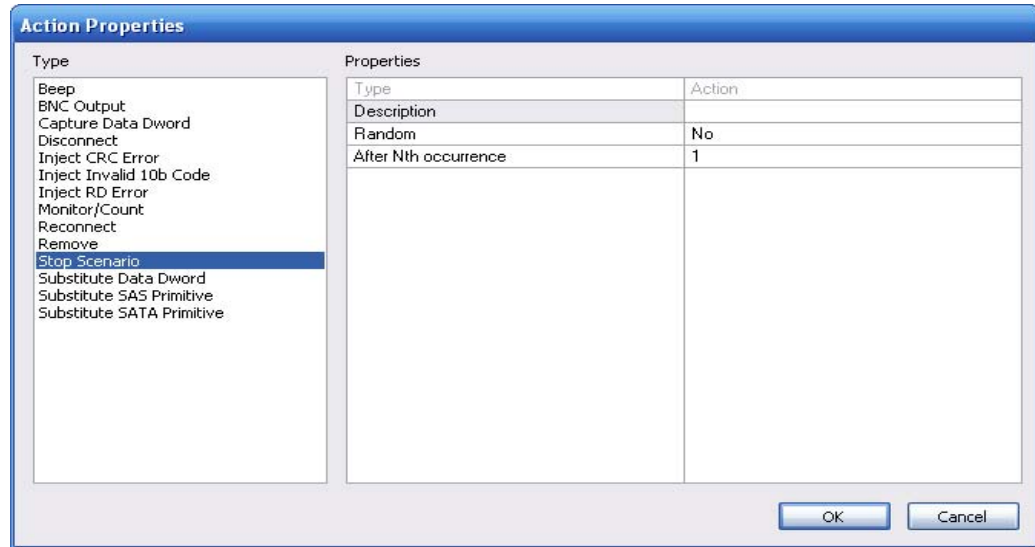

Figure 72 Example 6: Action Drop-Down List
- Step 7** The Action Properties dialog box appears (Figure 72). In the Type list on the left, choose **Stop Scenario** as the action you want after the timer has expired.